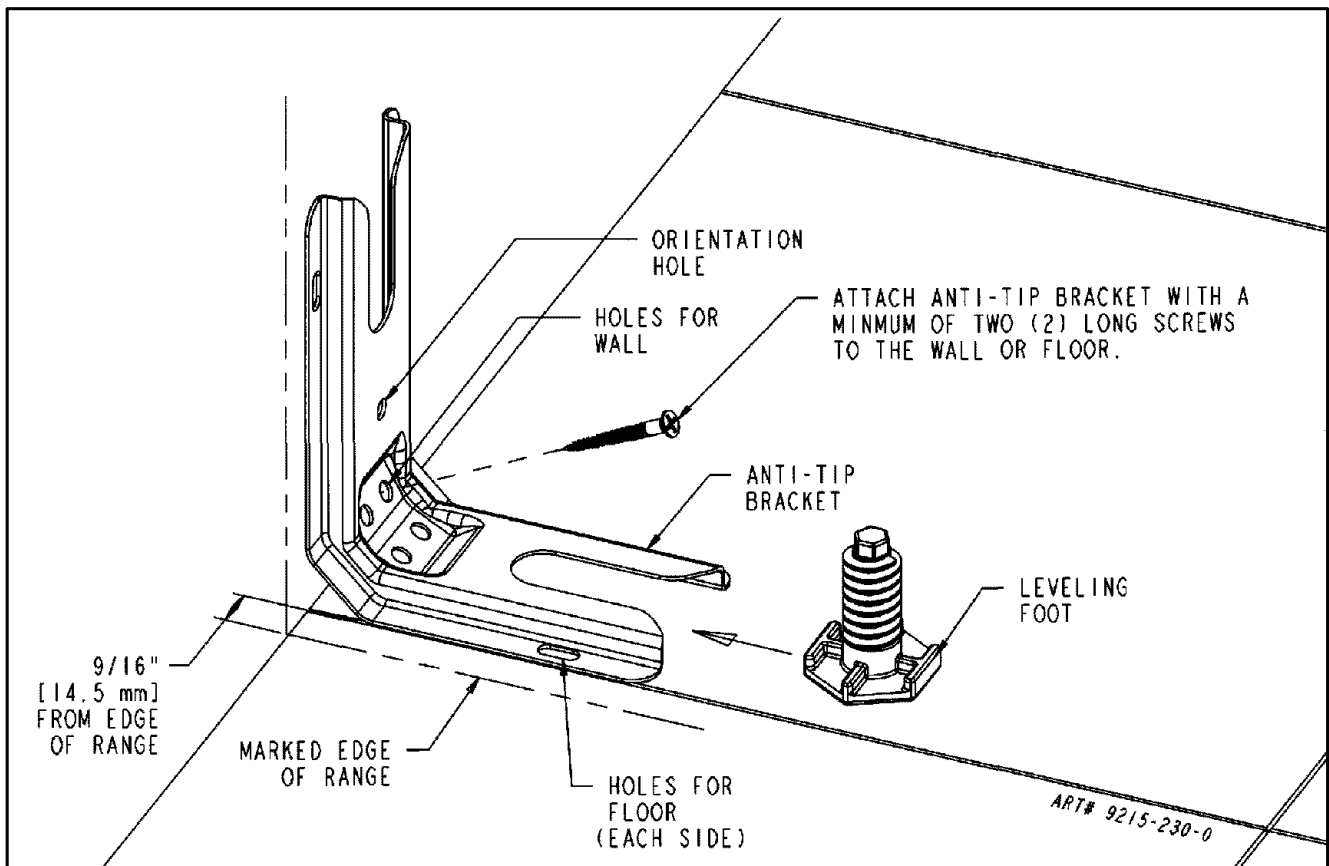
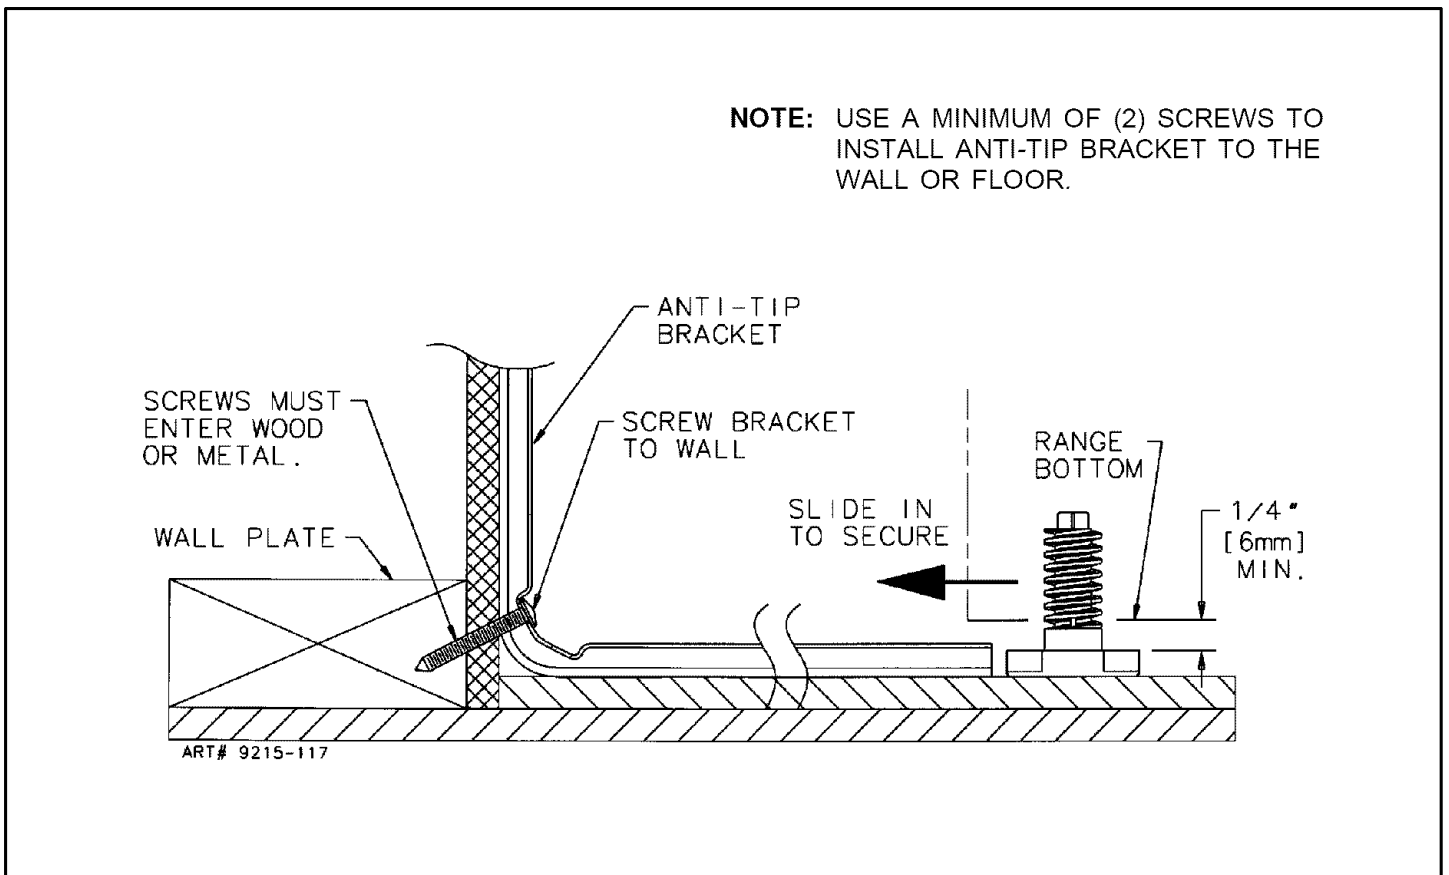

FIGURE 3
FIGURE 4
## STEP 1 - Locating The Bracket (See Figure 3)
- Place the BRACKET  $9/16"$  (14.5 mm) from the marked "EDGE" toward center of opening and against the back wall, as shown in figure 3, with orientation hole against wall.
- Use the bracket as a template and mark the required holes, as shown in figure 3 for the type of construction you will be using.
- Floor:** Locate the center of the two holes identified in figure 3 as "HOLES FOR FLOOR". Drill a  $1/8"$  (3 mm) pilot hole in the center of each hole (a nail or awl may be used if a drill is not available). Secure the ANTI-TIP bracket to the floor with the two screws provided. Proceed to Step 3.
- Wall:** Locate the center of the two holes identified in figure 3 as "HOLES FOR WALL". Drill an angled  $1/8"$  (3 mm) pilot hole in the center of each hole as shown in figure 4. (A nail or awl may be used if a drill is not available). Secure the ANTI-TIP bracket to the wall with the two screws provided as shown in figure 4. Proceed to STEP 3.
- Suitable screws for concrete construction can be obtained at the hardware store. Drill the required size hole for the hardware obtained into the concrete at the center of the holes identified in figure 3 as "HOLES FOR FLOOR". Secure the ANTI-TIP bracket to the floor. Proceed to STEP 3.
**Note:** A minimum clearance of 1/4" (6mm) is required between the range and the leveling foot that will engage the anti-tip bracket, (see figure 4).